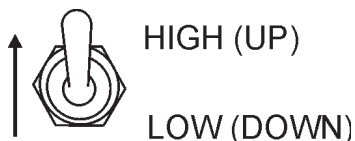

Figure 62. Engine Speed Switch (High)
2. Set the engine speed switch (Figure 62) to the "**HIGH**" position.